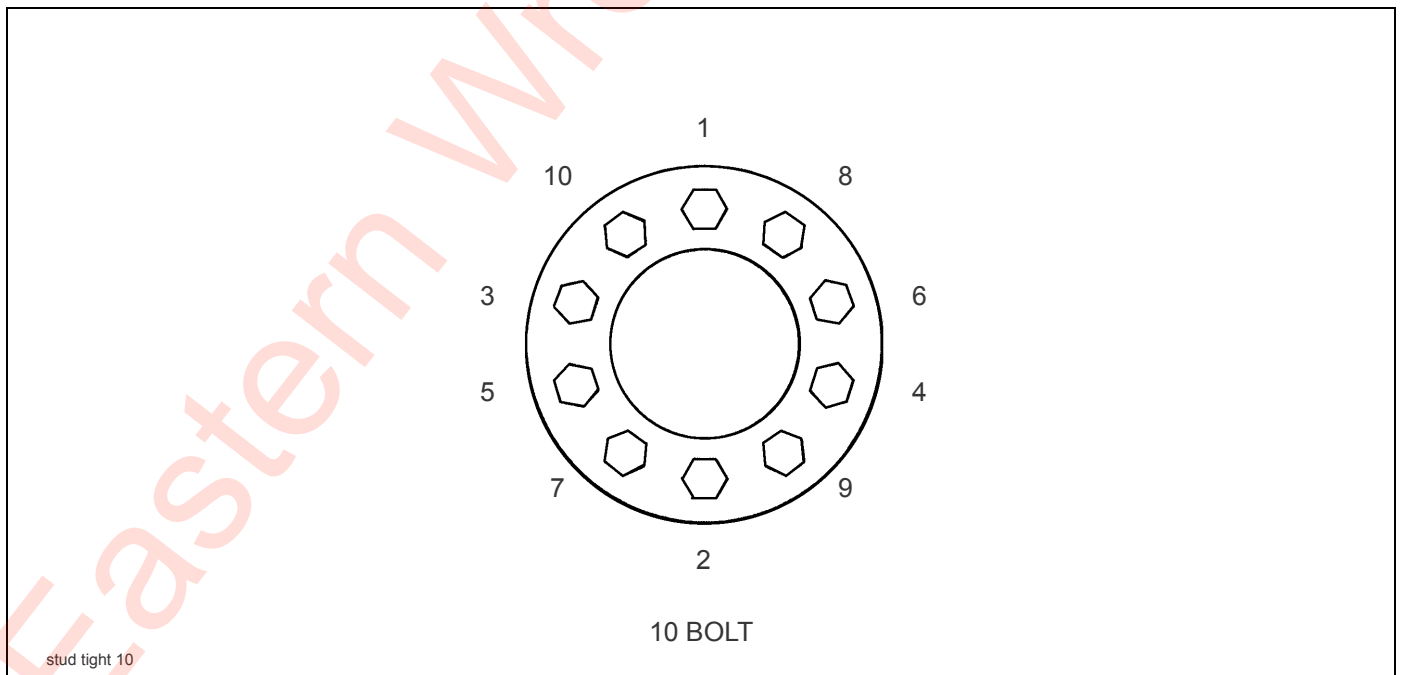

Figure 4-20: Stud Tightening Sequence
4. Install the flange nut (pilot mount) and tighten to 50 foot-pounds using the sequence in **Figure 4-20.** Then tighten to full torque of 450 to 500 foot-pounds.
Improper tightening sequence	Follow proper tightening sequence (See Figure 4-20.)